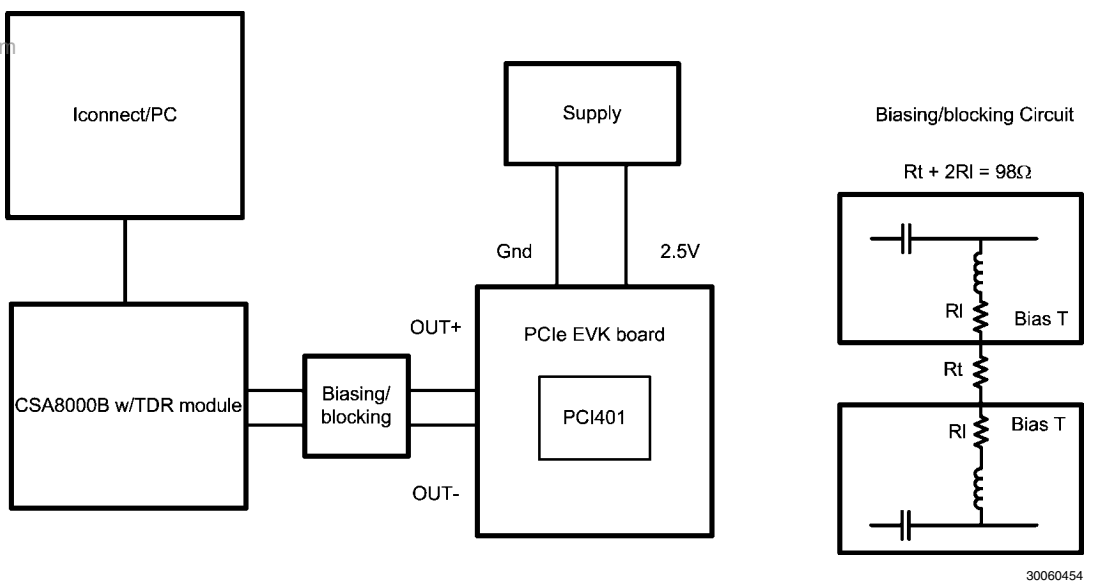

FIGURE 6. Input and Output Return Loss Setup
**Note 5:** Input Return Loss also uses the setup shown in Figure 6. The blocking / biasing circuit is replaced with a simple AC coupling capacitor for each input to emulate a typical PCIe application.